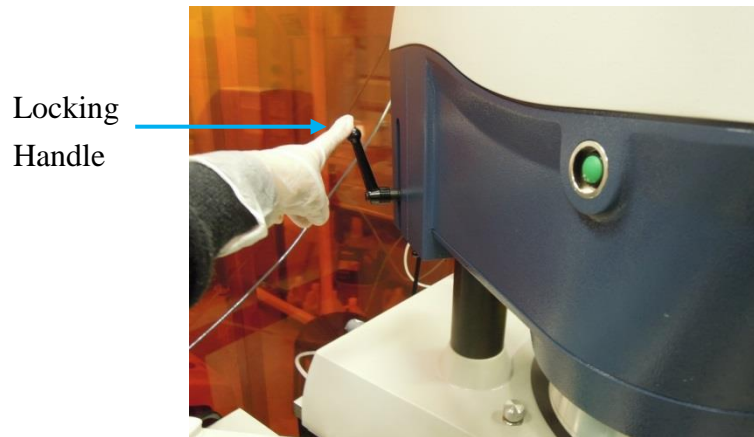
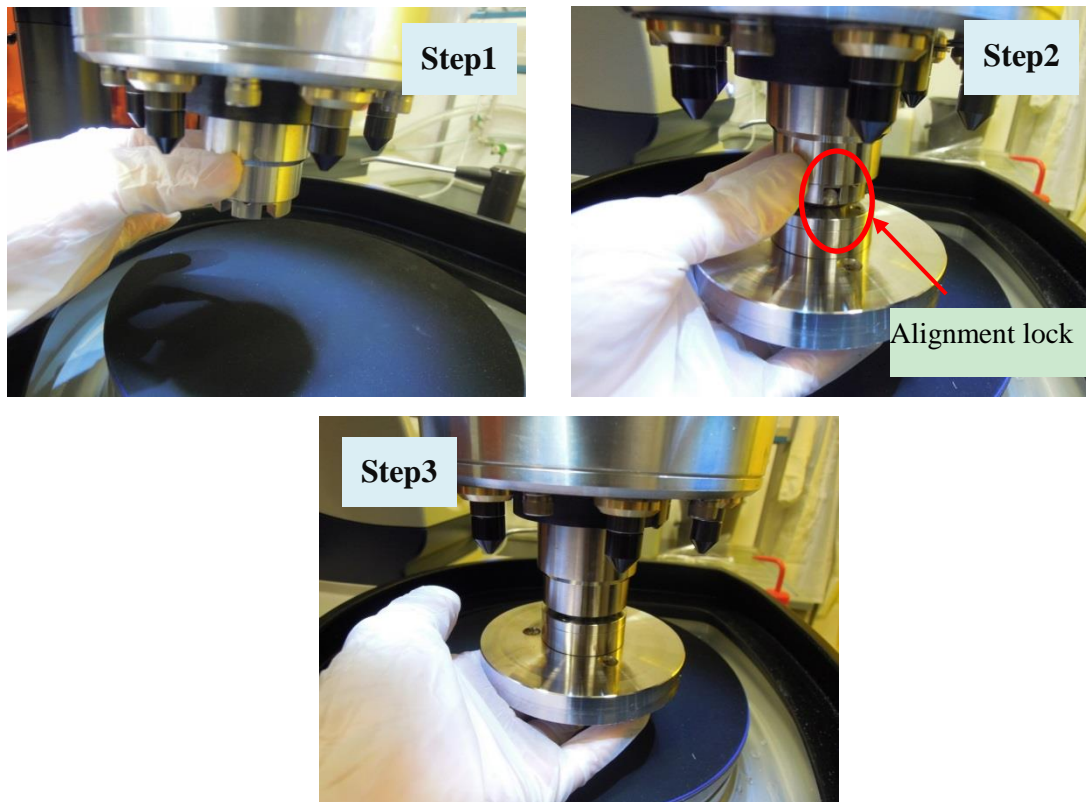

Fig. 11 Locking handle of the power head
Fig. 12 Sample loading
- Rotate the locking handle, as shown in Fig. 11, counter-clockwise to loosen the power head.
(2) Loading sample
- Raise the outer sleeve of the lift-lock of the power head, as shown in Fig. 12-step 1.
- Insert the sample holder, and gently rotate it until it aligns to the lock, as shown in Fig.12-step 2.
- Release the outer sleeve of the lift-lock, the sample holder will be fixed to power head, as shown in Fig. 12-step 3.
(3) Start the polishing process